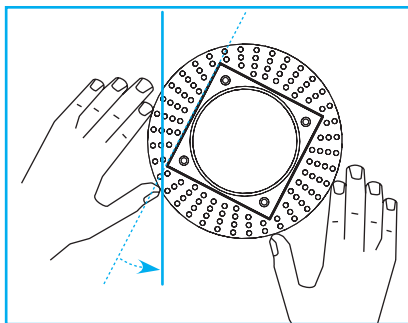

Fig.29
**Important:** For square fixture installations, appliqué must be properly aligned. Utilize string line or laser level to obtain uniform or desired alignment between multiple fixtures, or in relation to parallel planes (Fig.29).